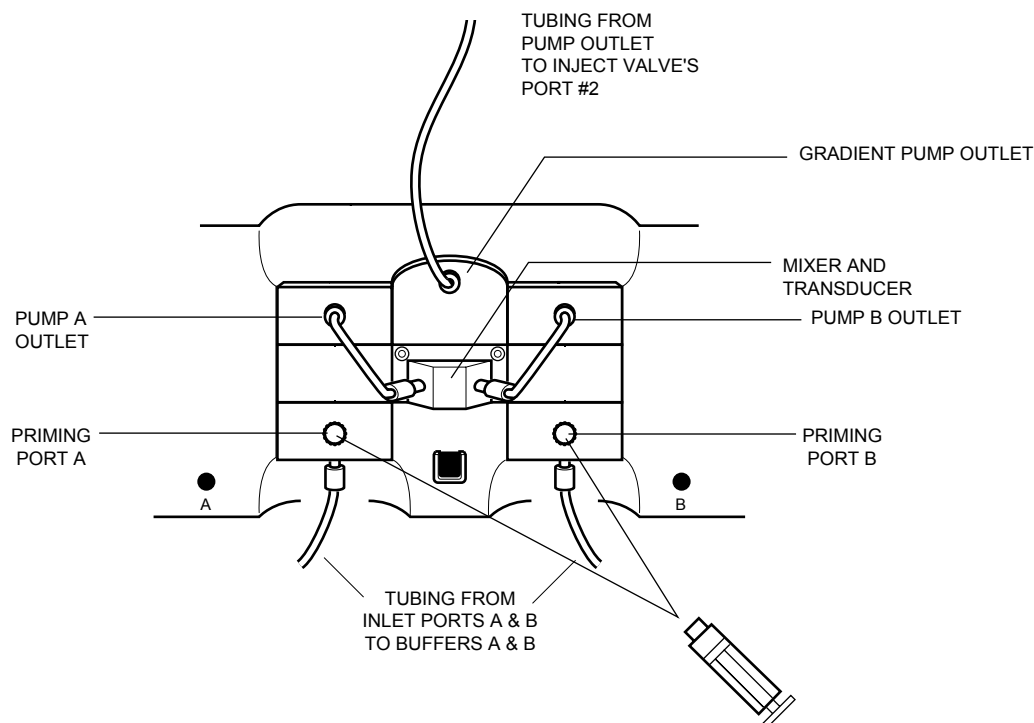

Figure 19. Plumbing Connections to the Gradient Pump
1. **Plumbing the Workstation Gradient Pump Inlets to the Buffer Reservoirs (Figure 19).**